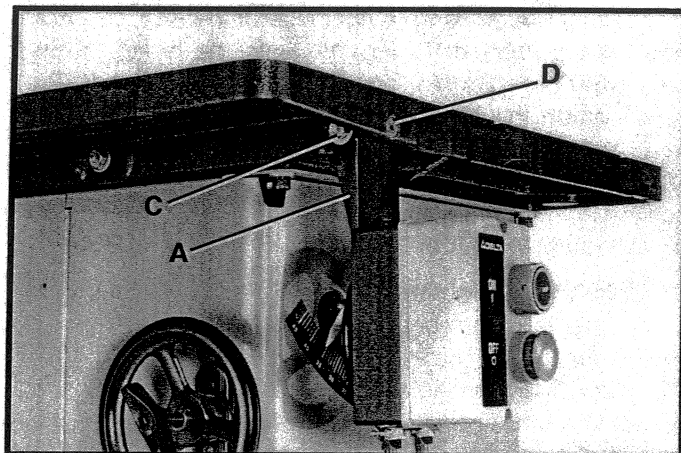

Fig. 7
5. Attach the side of switch bracket (A) Fig. 7, to the inside of extension table at the front of the saw using the 5/8 x 1-1/4" screw and flat washer (C), which were removed in STEP 3. Tighten screws (C) and (D).